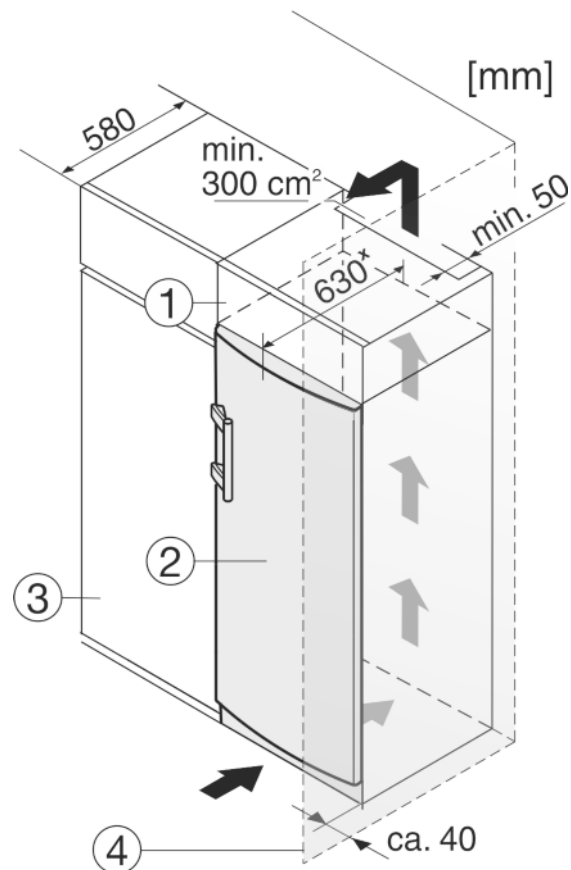

Fig. 8
- (1) Stack cabinet
- (2) Appliance
- (3) Kitchen cabinet
- (4) Wall
The appliance can be inserted into a row of kitchen units. To match the appliance Fig. 8 (2) to the height of the row of units, a suitable stack cabinet Fig. 8 (1) can be fitted above the appliance.
When installing with kitchen units (max. depth 580 mm), the appliance can be positioned directly next to the kitchen cabinet Fig. 8 (3). The appliance will project by 34 mm* at the sides and 50 mm* in the centre of the appliance in relation to the kitchen cabinet front.
If the appliance is installed with the hinges next to a wall Fig. 8 (4), the distance between appliance and wall has to be at least 40 mm. This corresponds to the projection of the handle when the door is open.